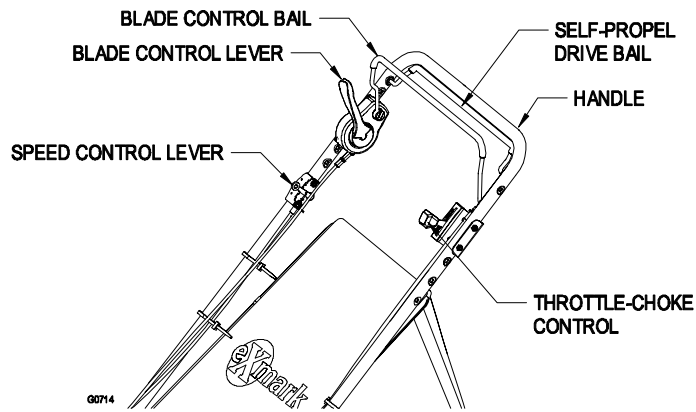

FIGURE 1
Located on the upper handle as shown in Figure 1. **When the blade control bail is depressed, the system senses that the operator is in the normal operator's position.**
Located on the upper handle as shown in Figure 1. When the self-propel drive bail is squeezed, the unit will move forward at the speed set on the speed control lever. When this bail is released the unit will stop moving.
The throttle-choke control is located on the left side of the handles as shown in Figure 1. The lever is used to control engine speed. Moving the lever to the full forward **1** (**Choke**) position will place the lever in the choke position. The choke aids in starting a cold engine. Moving the throttle control forward will increase engine speed and moving it to the rear will decrease engine speed.
The blade control lever is located on the right side of the handle next to the Blade Control Bail as shown in Figure 1. Moving the blade control lever into the full forward position while depressing the blade control bail engages the blade. Releasing the blade control bail automatically disengages the blades.
The ground speed control is located on the right side of the handles below the blade engagement lever as shown in Figure 1. The ground speed control has three settings which control the ground speed of the mower.
The lawn mower has three ground speeds. **1** is slow, **2** is medium, and **3** is fast (See Figure 1 for speed control lever location).
- c) Squeeze the drive bail against the handle (See Figure 1).
- b) Squeeze the blade control bail against the handle (Figure 1).
- c) Move the blade control lever to the full forward **Latch** position. Blades should engage (Figure 1).